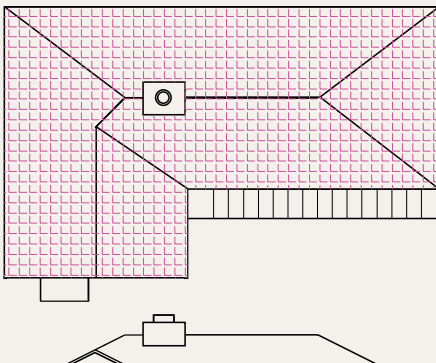

Fig. 8.25 Exercise 6
6. Working to dimensions of your own choice, construct the three-view projection of a two-storey house as shown in Fig. 8.25.